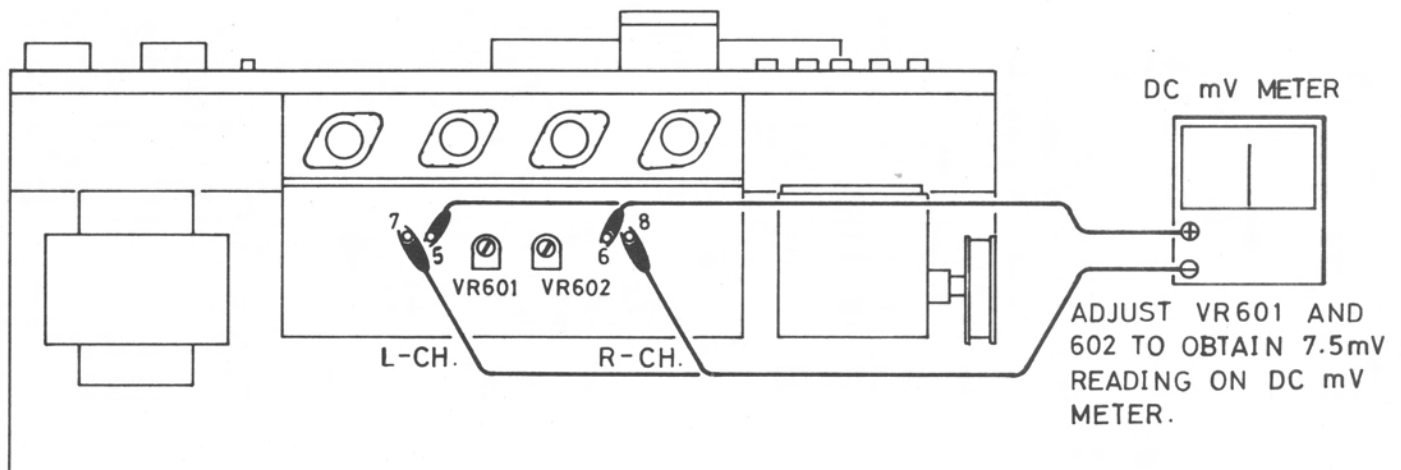

Figure 1. Bias (Idling Current) Adjustment Hook-up
2. Adjust the potentiometer VR601 to obtain a 7.5mV reading on the DC milli-volt meter (see Figure 1.).